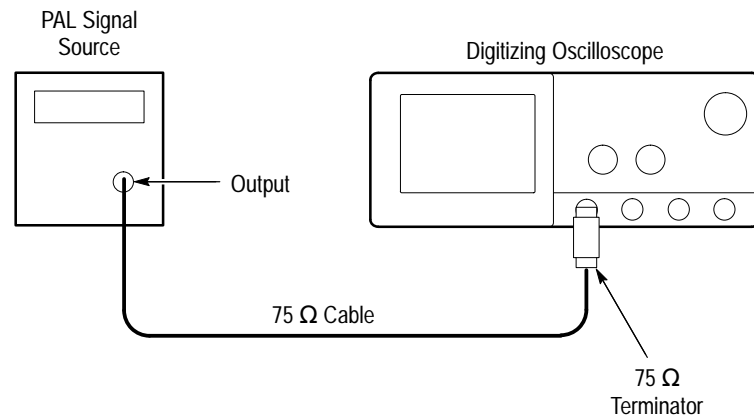

Figure 1-35: Line Count Accuracy Test Hookup
- Connect a composite output signal from the rear of the PAL signal source (labeled **COMPST** on the TSG 121) to the CH1 input through a 75 Ω cable and a 75 Ω terminator. See Figure 1-35.